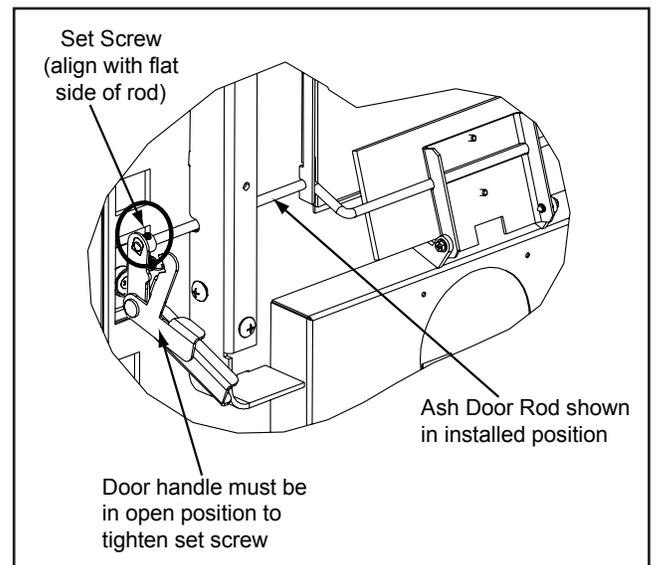

Figure 41.3
5. Re-install handle using a 3/32 Allen wrench to tighten the set screw in the door handle. The set screw needs to be snug. **Figure 41.3.**